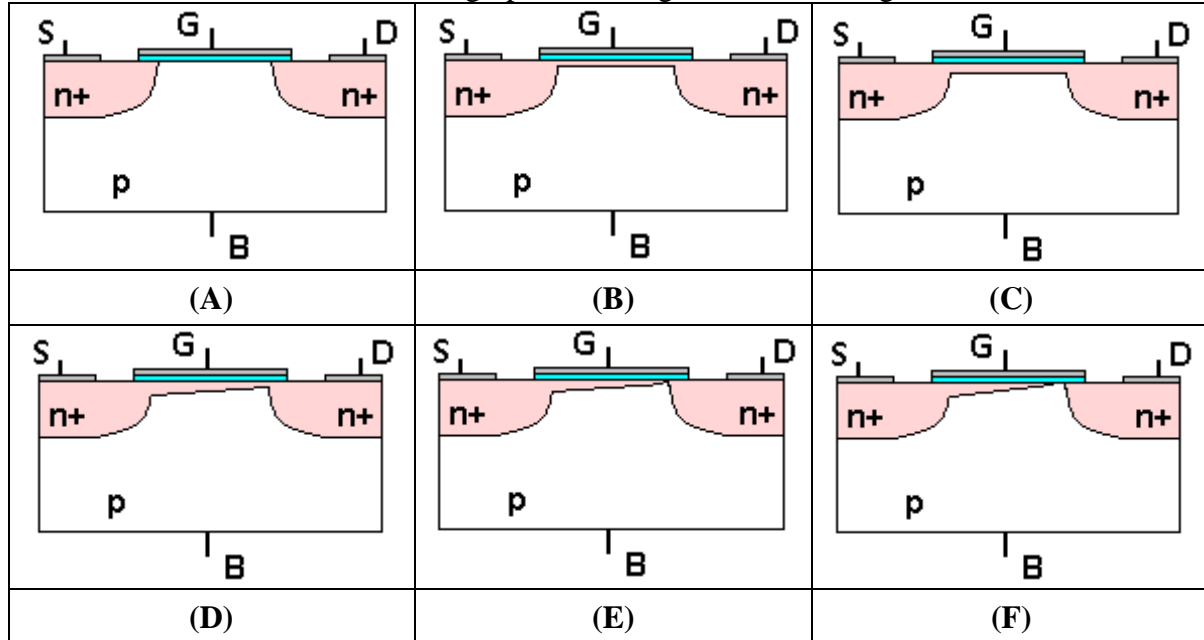

Figure 4. N-MOSFETs with different channel cases
- 1) Match the drawn MOSFETs in figure 4 with the given voltages in table 1, and then complete the last column of table 1. The MOSFET is an n-channel enhancement type with $V_T = +2.5$ volts. Please note that the channel length and thickness (depth) are not to scale! Choose the closest graph for each given set of voltages.